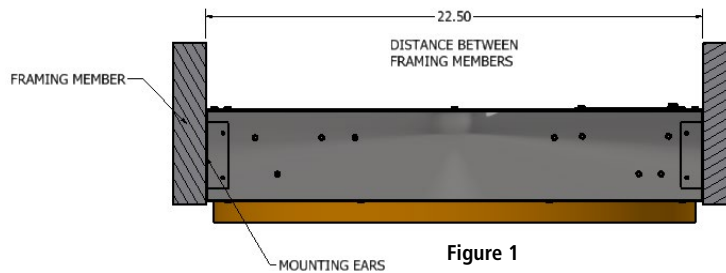

Figure 1
2. Frame out location of luminaire specified distance between framing members shown in Figure 1. Framing members should run the full length of the luminaire. 16GA galvanized steel channel is recommended for its straightness and strength.